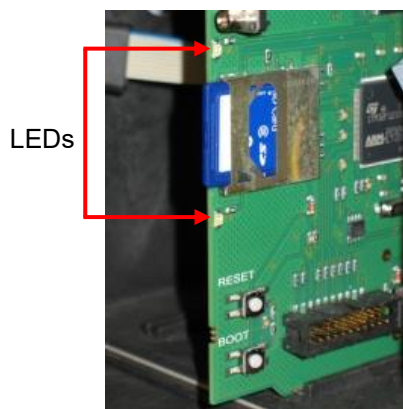

Figure 28
8. The Testomat restarts and implements the update. In this mode, although no text is output, the status is indicated via the LEDs of the SD card (see figure 28) as well as those on the control card (see figure 30 on page 64). The programming progress is indicated as bars with five LEDs on the control card: Initially, only LED1 flashes (in the vicinity of the plug connector to the motherboard) slowly (once every two seconds) and later permanently, whereupon the next LED begins flashing. The process is repeated until all LEDs light up permanently. The firmware update is now complete. The Testomat is started automatically with the new operating software. The complete firmware update takes around 70 seconds.